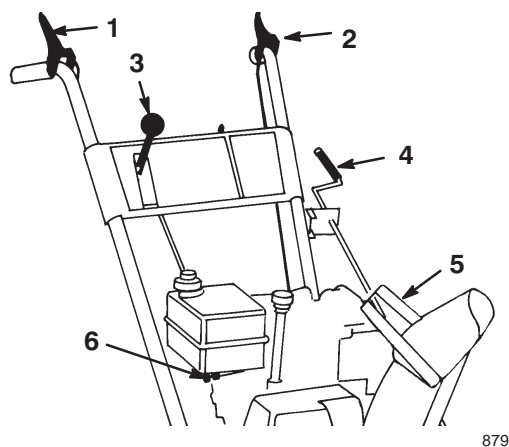

Figure 15
- **Auger/Impeller Drive Control Lever** (Fig. 15)—To engage both the auger and impeller, press the lever against the right handgrip. To disengage, release the lever.
- **Traction Control Lever** (Fig. 15)—To engage the traction (wheel drive), press the lever against the left handgrip. To stop the traction, release the lever.
- **Speed Selector** (Fig. 15)—This control has 7 positions: 5 forward and 2 reverse gears. To change speeds, move the speed selector to the desired position. The lever locks in a notch at each speed selection. The speed selector may shift with difficulty in heavy load conditions.
- **Discharge Chute Control** (Fig. 15)—Rotate the discharge chute control clockwise to move the discharge chute to the left; counterclockwise to move the chute to the right.
- **Chute Deflector Handle** (Fig. 15)—Move the deflector handle forward to move the snow stream down; move it rearward to move the snow stream up.
- **Fuel Shutoff Valve** (Fig. 15)—Close the valve by rotating it clockwise. Open the valve by rotating it counterclockwise. Close the valve when you do not use the snowthrower.
3. Release the auger/impeller drive control lever and the traction control lever (Fig. 15).
11. Move the speed selector (Fig. 15) to first gear, squeeze the traction control lever to the handgrip, and then release the traction control lever. If the snowthrower moves forward before engaging the traction drive control lever or after releasing the lever, see Adjusting the Traction Drive Belt on page 20.